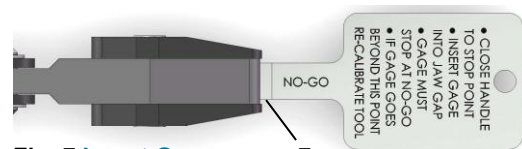
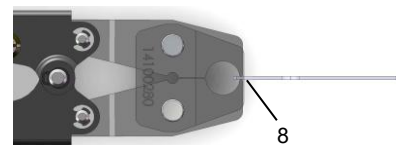

Fig. 7 Insert Gauge 7
Fig. 8 Insert Gauge (side view) 8
2. Insert GO/NO-GO gauge into jaw gap (Fig. 7 and Fig. 8)